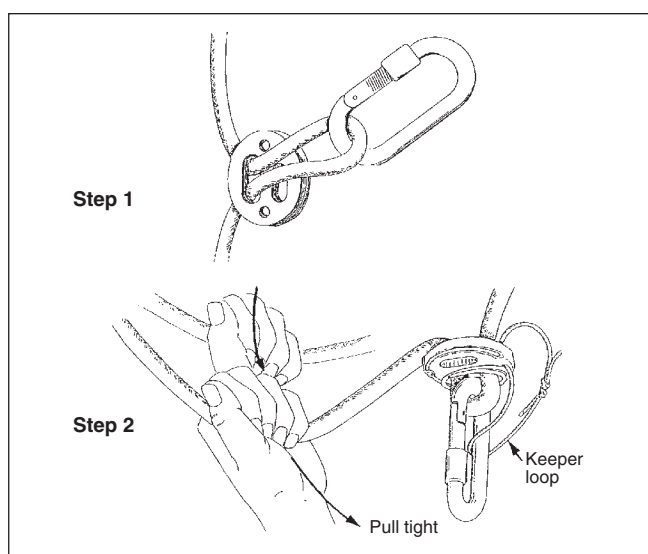

Figure 4i—Using a belay plate.
2. *Belay-plate belay.* The belay-plate belay system requires a manufactured belay plate (figure 4i). Belay plates come in a variety of sizes and shapes. They are generally designed for use with a specific range of rope diameters and flexibility. Some figure-8 descenders are designed with a belay plate in either the small ring or between the small and the large rings. Follow the manufacturer's instructions when using figure eights for belaying. Some figure eights are not designed for belay use and others are used differently. Figure eights either do not provide sufficient friction or do not feed freely enough for use as a belay device when rigged in a rappel configuration. Belay plates should only be used with kernmantle rope. The tendency of laid ropes to twist and form kinks makes them unsuitable for use with belay plates. To set up and use the system: